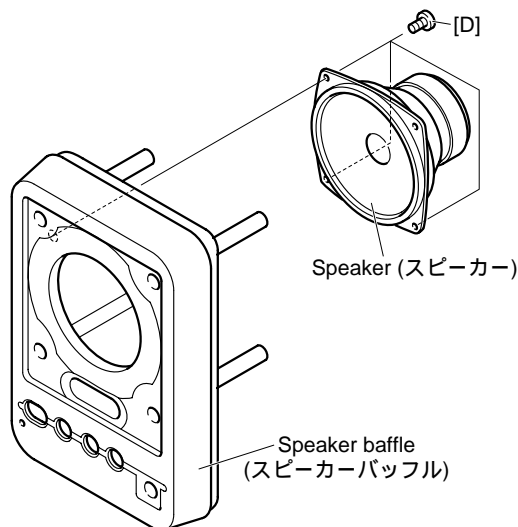

Fig.3(図3)
3-3 Remove the four (4) screws marked [D], then the speaker can be removed. (Fig.3)
3-3 [D]のネジ4本を外して、スピーカーを外します。(図3)